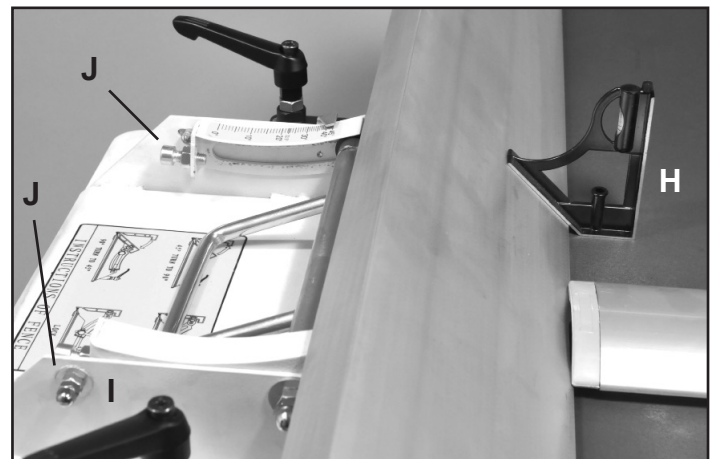

FIG. 9
7. To set the fence at exactly 45°, set a miter square (FIG. 9, H) against the fence extrusion. NOTE: This angle is actually 135° from the jointer table.
8. There are two Hex Screws (#257, FIG 9, I) mounted through the vertical sides of the Support Plate (#265, J). These screws touch the rear of the Support Arms (#252 & 264) when the fence is at the 45° setting. Adjust the hex screws until the fence extrusion is exactly set at 45°, then secure the bolts in position with their Cap Nuts.